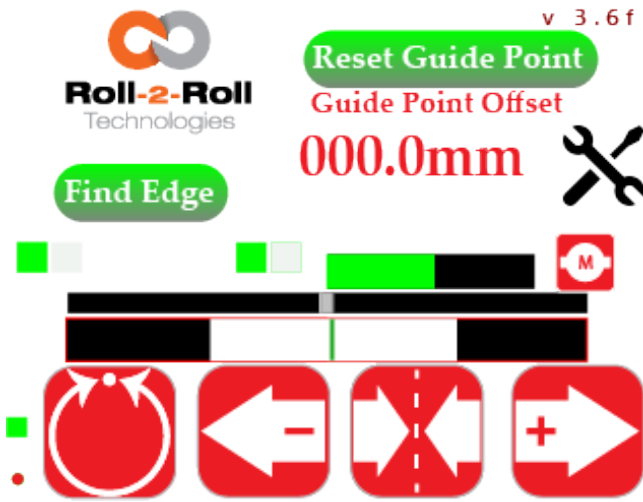
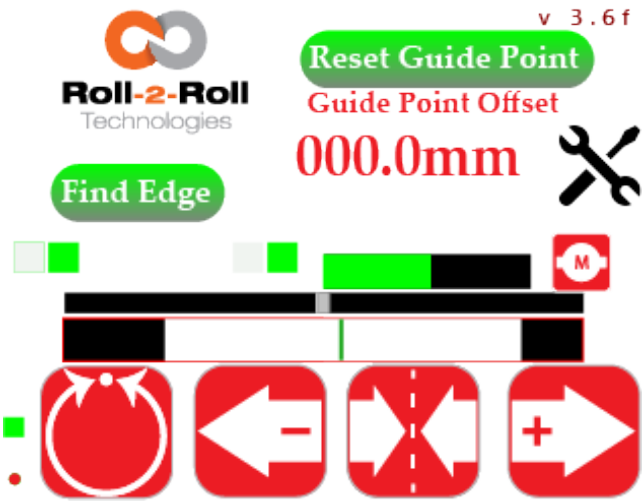

Figure 5.6: *Sensor 1* configured for centerline.
Figure 5.7: *Sensor 2* configured for centerline.
When a single sensor is utilized to monitor the centerline position of the web, the web's entirety, including its centerline position, is symbolized by the web position bar. For instance, in Figure 5.6, *Sensor 1* is set to center mode to capture the complete web; the web's position is depicted by the white rectangle within the black background. The green line running through the middle of the white rectangle represents the centerline position of the web. As the web move back and forth, both the white rectangle (indicating the web) and the green line (depicting the centerline position) shift within the black background. Figure 5.7 illustrates a similar scenario with *Sensor 2*.
- When one sensor is configured to detect the left edge and the other to detect the right edge (as illustrated in Figure 5.6 and 5.7), the left edge of the web is consistently displayed on the left side of the web position bar, while the right edge of the web is consistently displayed on the right side of the web position bar. Thus, in Figure 5.6, the left portion of the web position bar represents the web position detected by Sensor 1, whereas in Figure 5.7, the left portion of the web position bar indicates the web position detected by Sensor 2.